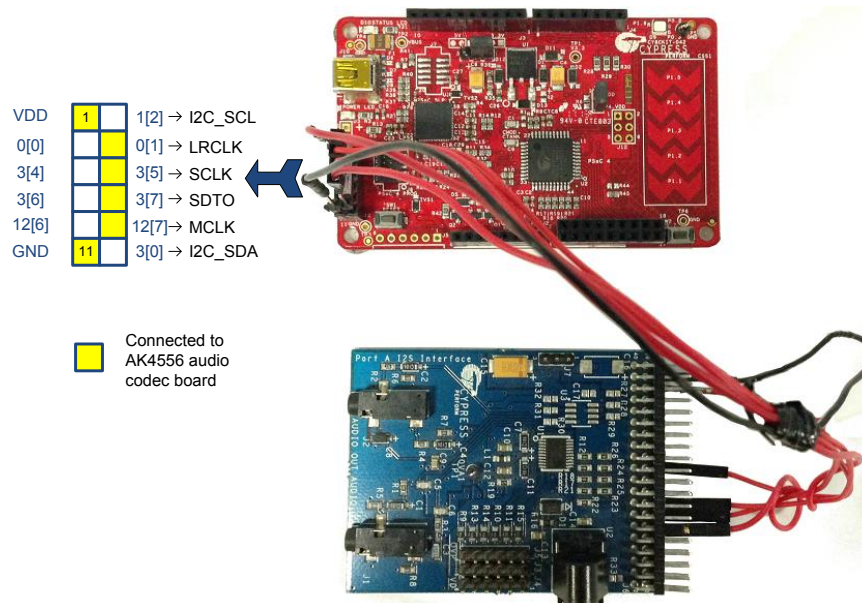

Figure 18: Pioneer Kit - Audio Codec Board Pin Connections
- Connect the I²S pins of the audio codec board to the P5LP header in Pioneer kit using jumper wires as shown in the **Figure 18**.